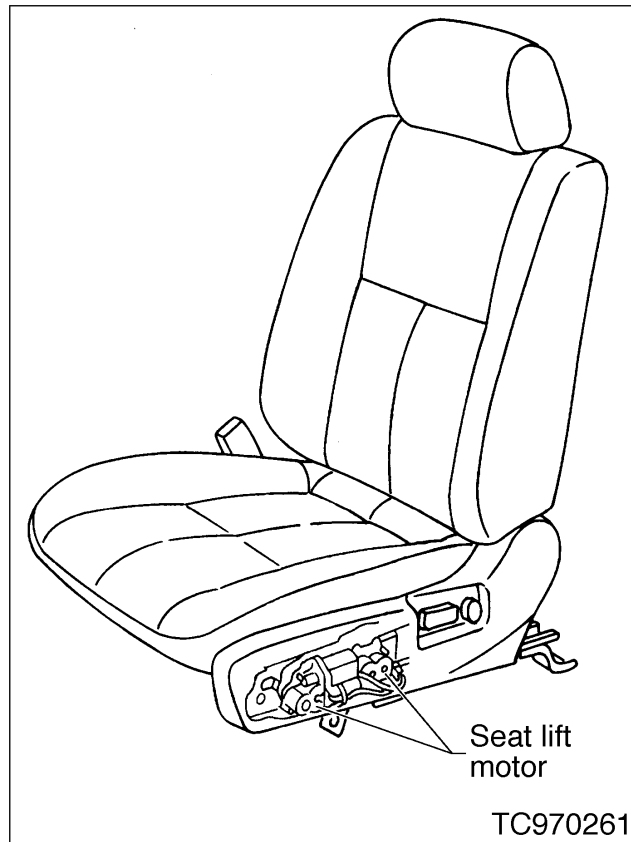

Figure 1
3. If there is no seat movement, remove the motor from the seat frame and inspect the plastic gear (see Figure 1, page 2).